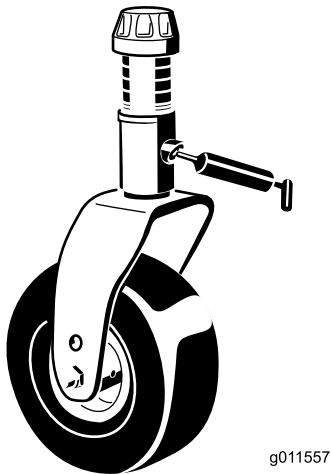

Figure 18
- Castor fork shaft bushings (Figure 18)